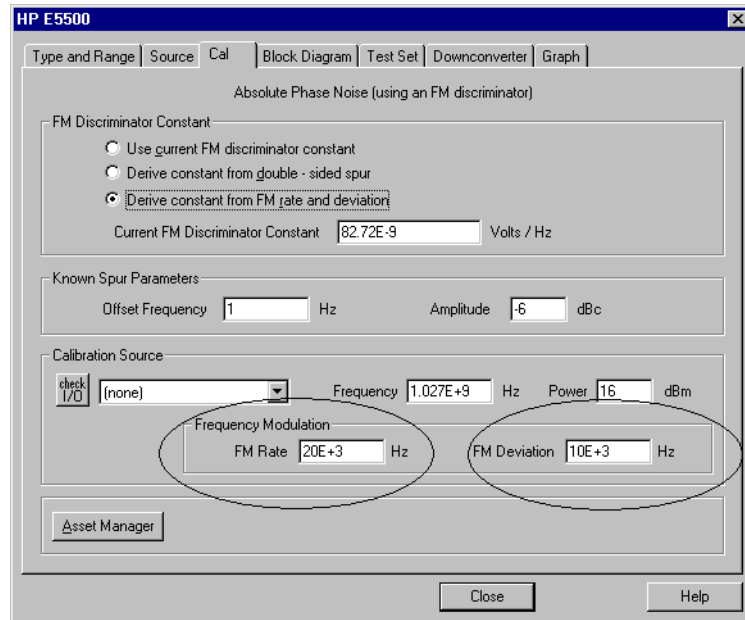

Figure 11-22 Enter Parameters into the Cal Tab
- 10 Set the **FM Rate** to 20 kHz and **FM Deviation** to 10 kHz, which are the recommended FM rate and deviation. See Figure 11-22.